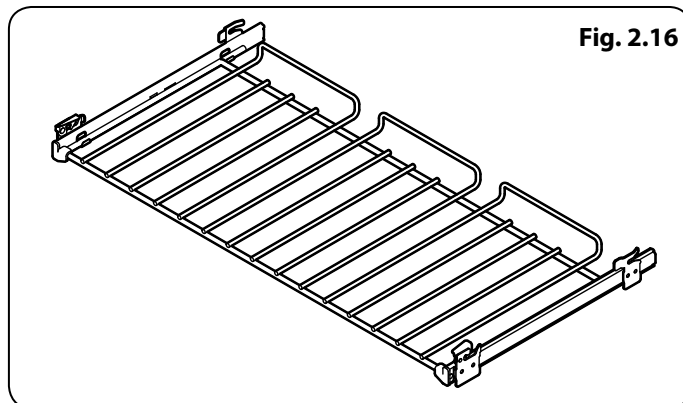

Fig. 2.16
- 1 telescopic rack with runners (**Fig. 2.16**)